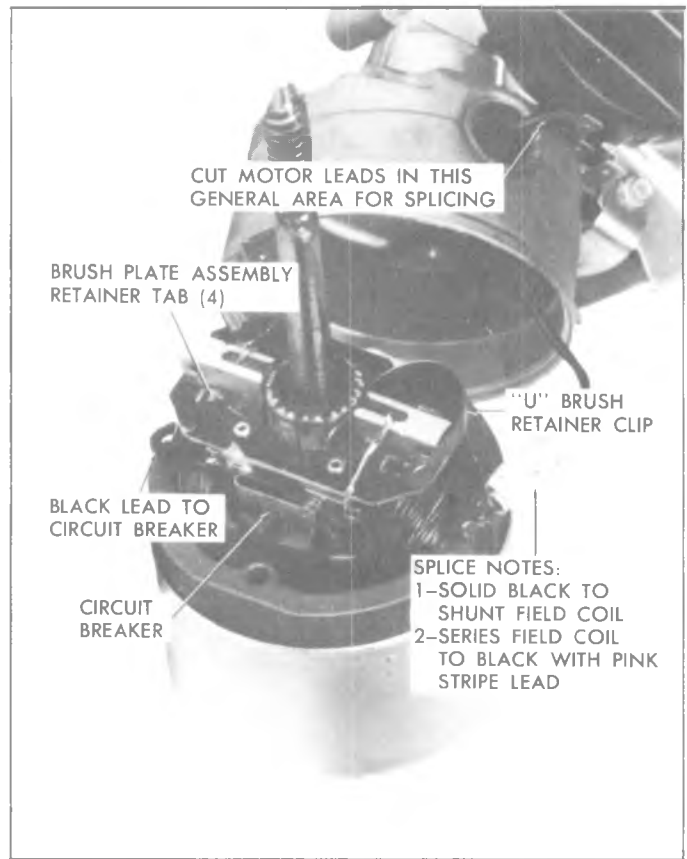
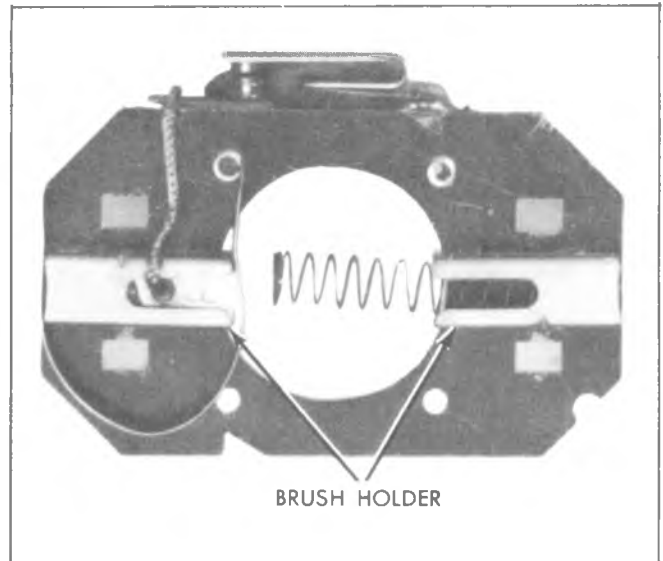

Fig. 8-31 - Circuit Breaker
Fig. 8-34-Brush Plate Assembly
4. Unsolder black cotton-covered lead from circuit breaker (fig. 8-31).
5. Straighten out the four tabs that secure brush plate to field coil retainers (fig. 8-31).
6. Install "U" shaped brush retainer clip over brush holder that has brush lead attached to circuit breaker (fig. 8-31).
2. The end case and field assembly is serviced as a unit. To free the field and case assembly, cut the solid black plastic insulation and black with pink stripe leads in a location convenient for splicing—preferably near the wiper terminal board. Refer to Figure 8-31 for splicing location.
5. Position partially assembled brush plate (fig. 8-34) over armature shaft far enough to allow assembly of remaining brush in its brush holder, then position brush plate on mounting tabs in position shown in Figure 8-31.
7. Remove brush retainer clips and resolder black cotton covered lead to circuit breaker (fig. 8-31).